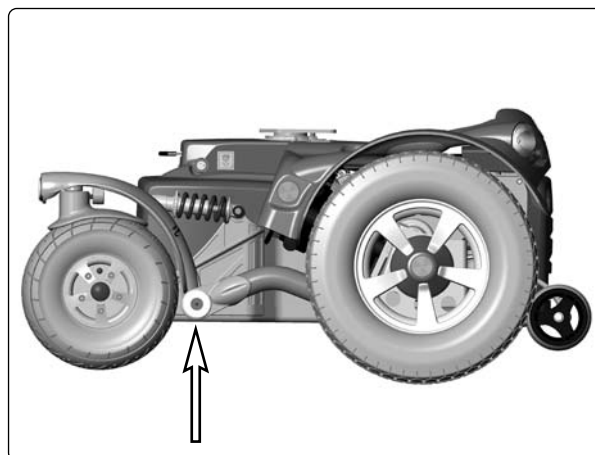

Fig. 25. Front and rear slewing bracket attachment.
4. Remove the bolt that secures the slewing bracket; see figures 25 and 26.